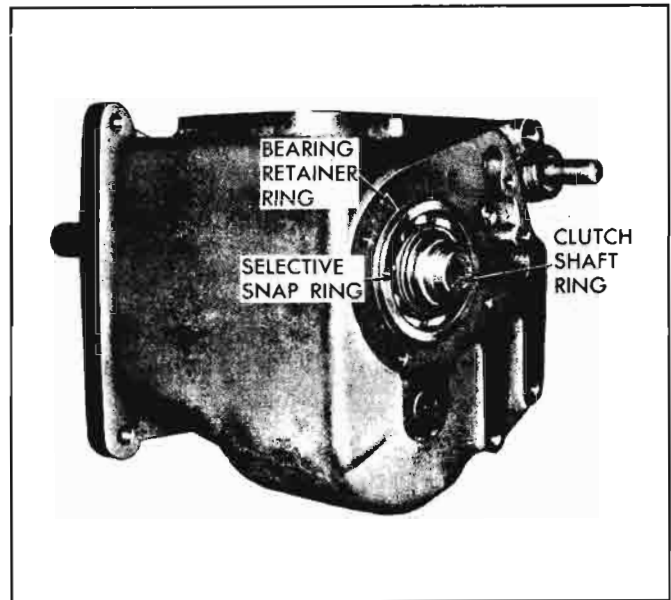

Fig. 6D-32—Clutch Gear and Bearing Snap Rings
6. Remove the snap rings located in the clutch gear bore, between the clutch gear and bearing, and between the clutch gear bearing and case (fig. 6D-32).